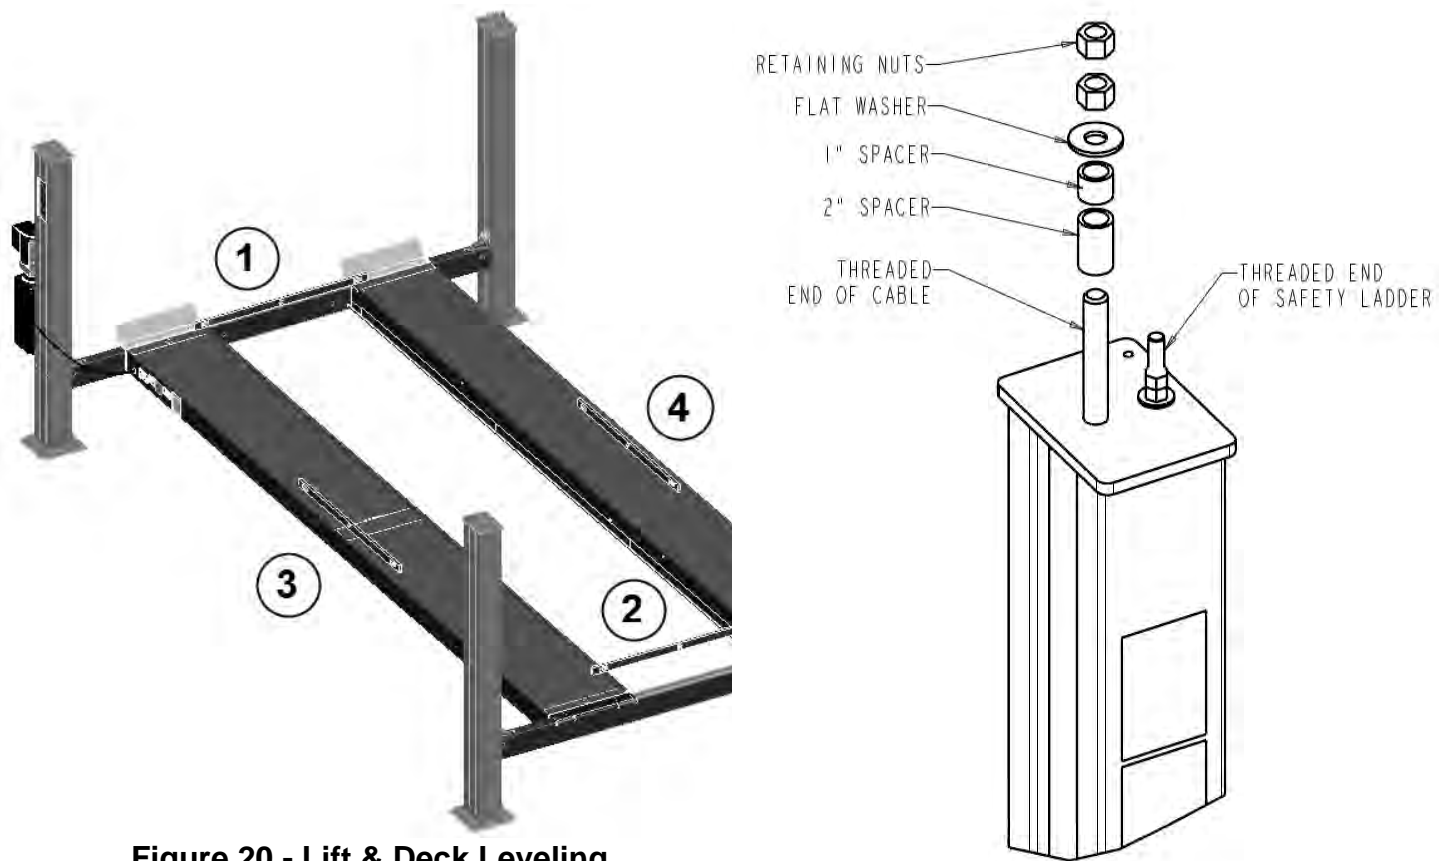

Figure 20 - Lift & Deck Leveling
3. Using a 4ft. level, check the level of the decks 'front to rear' and 'side to side' as shown if **Figure 20**.
5. The other (3) corners will need to be raised to the level of the highest corner. This is accomplished by tightening the safety ladder retaining nuts on top of the tower.
2. Using a 4ft level, check the level of the decks 'front to rear' and 'sided to side' as shown in **Figure 20**.